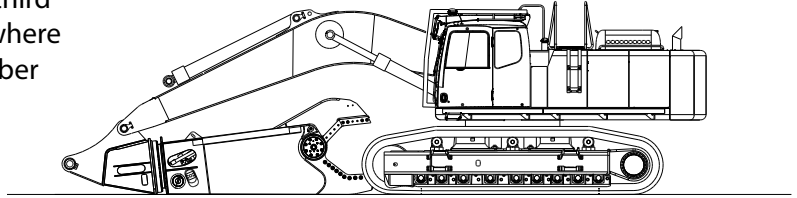

FIGURE 3-1
4. With the jaws of the shear facing the excavator, walk the excavator into position, aligning the excavator's boom or stick into the boom pivot or stick connection of the shear bracket (see Figure 3-1).